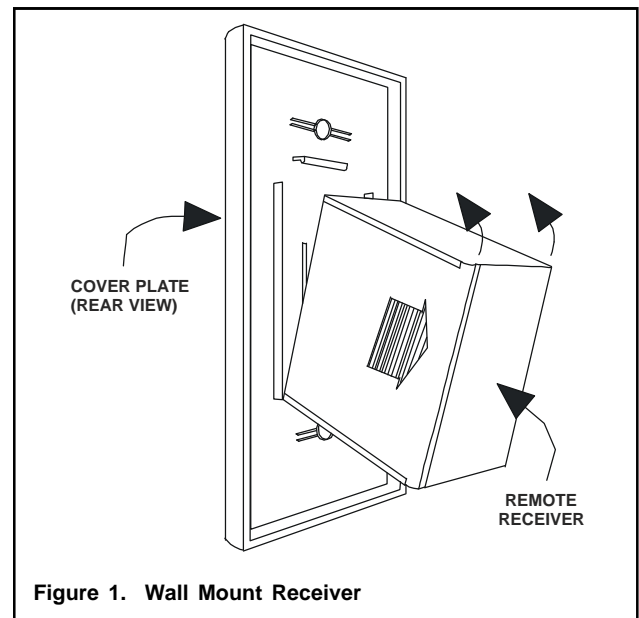

Figure 1. Wall Mount Receiver
2. Position the remote receiver as shown in Figure 1 with the lower tab of the cover plate inserted into the groove on the receiver. Pull the receiver up and snap it into the cover plate top tab.